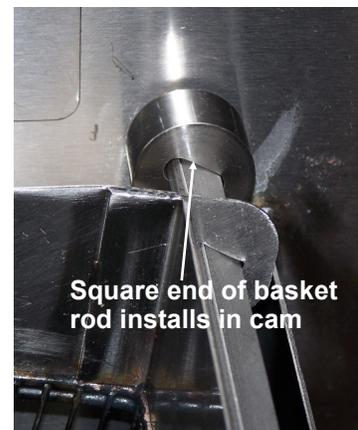

fig. 10a
- Insert the flat end of the basket rod into the slot in the basket cam located on the back wall of the cook chamber (fig. 10a).